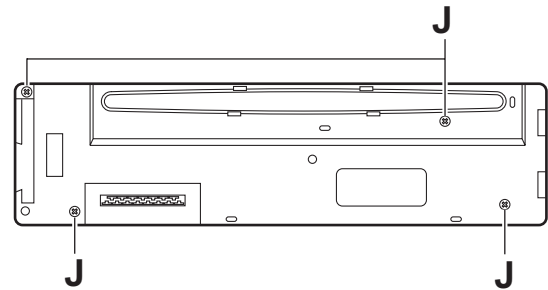

Fig.8
(See Figs.8 to 10)**
- (1) Remove the four screws **J** on the back side of the front panel assembly. (See Fig.8)